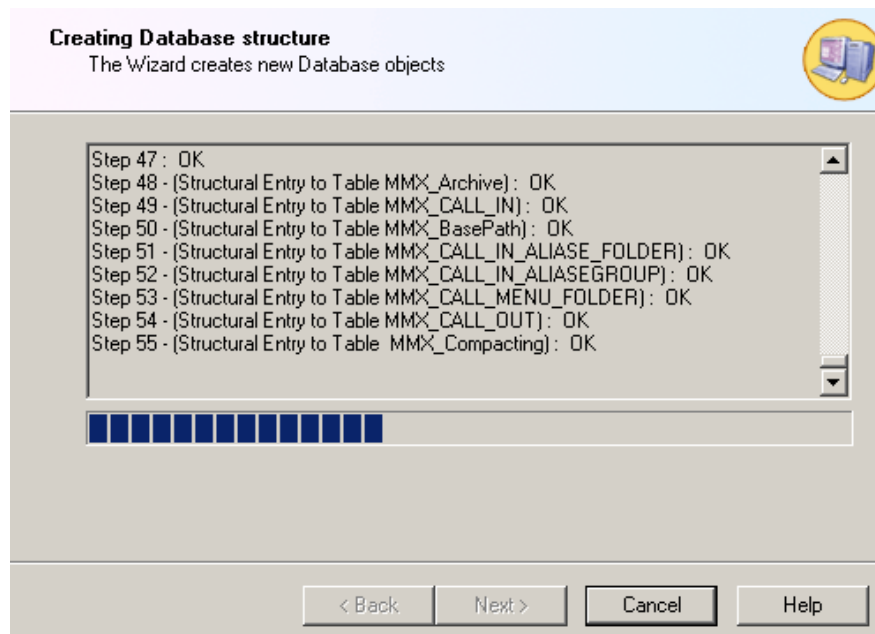

Figure 1.25. Creating Database Structure
- The Wizard inserts Multimedia tables into the selected SQL Server database, as shown in **Figure 1.25**. Click the **Next** button to continue.